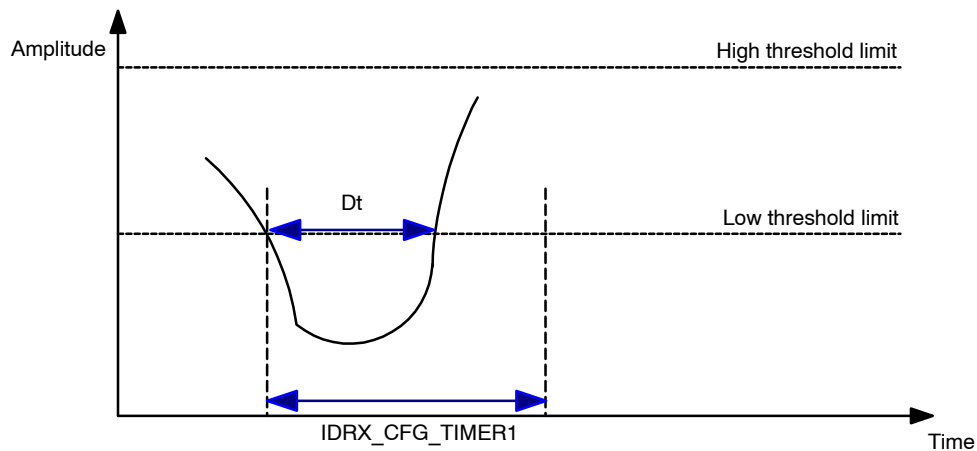

Figure 3. Timer 1 is Reset
- If the input amplitude rises above the low threshold limit before timer T1 expires, the timer is reset and the selected input channel is not changed. This is shown in Figure 3.